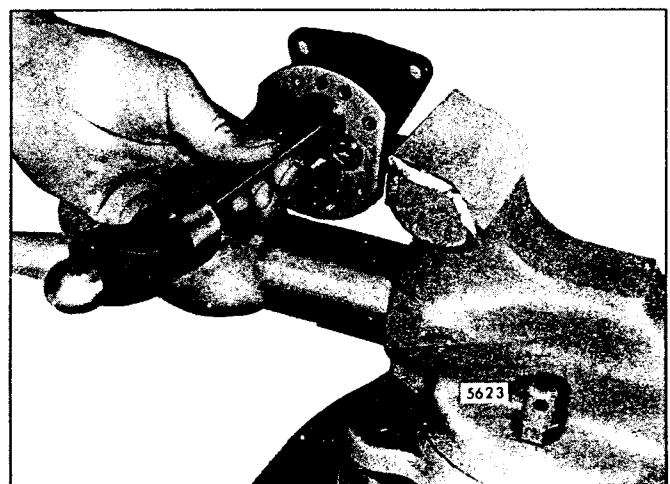

Fig. 5 - Removing Oil Seals Using Tool J 1508-13
7. If the oil seals need replacing, remove them with oil seal remover J 1508-13 (Fig. 5). Clamp the pump body in a bench vise and tap the end of the tool with a hammer to remove the outer and inner seals.